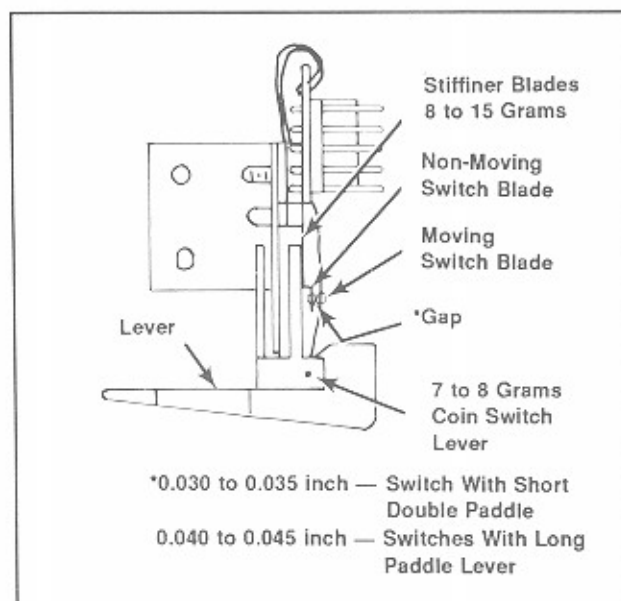

Figure 3-8. Contact Pressure
1. Check that each moving switch blade pushes against its lever with 7 to 8 grams force to hold the lever against the cushion (*see figure 3-8*). To adjust the pressure, bend the blade near its mounting point.